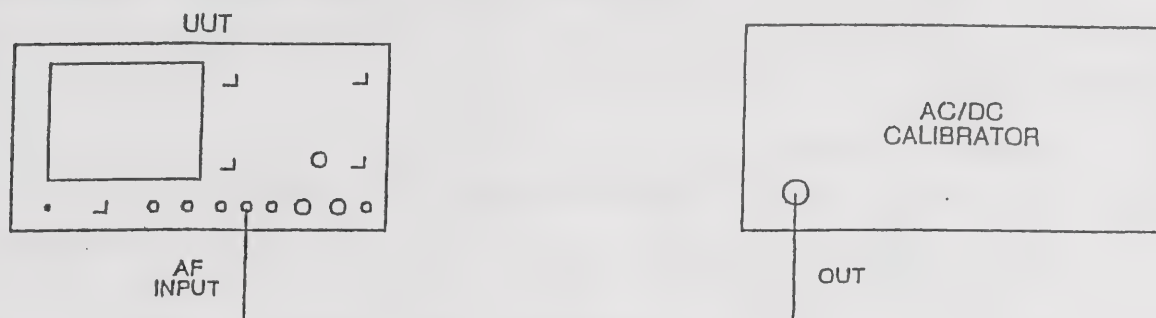

Fig. 3-5 Test equipment connections for adjusting R231 on AB5/I
- (1) Connect the equipment as shown in Fig. 3-5.
- (2) Set the calibrator to give 5.000 V DC.
- (3) Set the UUT to RECEIVER TEST, distortion-SINAD-S/N off, DC coupled, 50 kHz low-pass filter.
- (4) Adjust R231 until an AF level of 5.00 V DC is displayed.